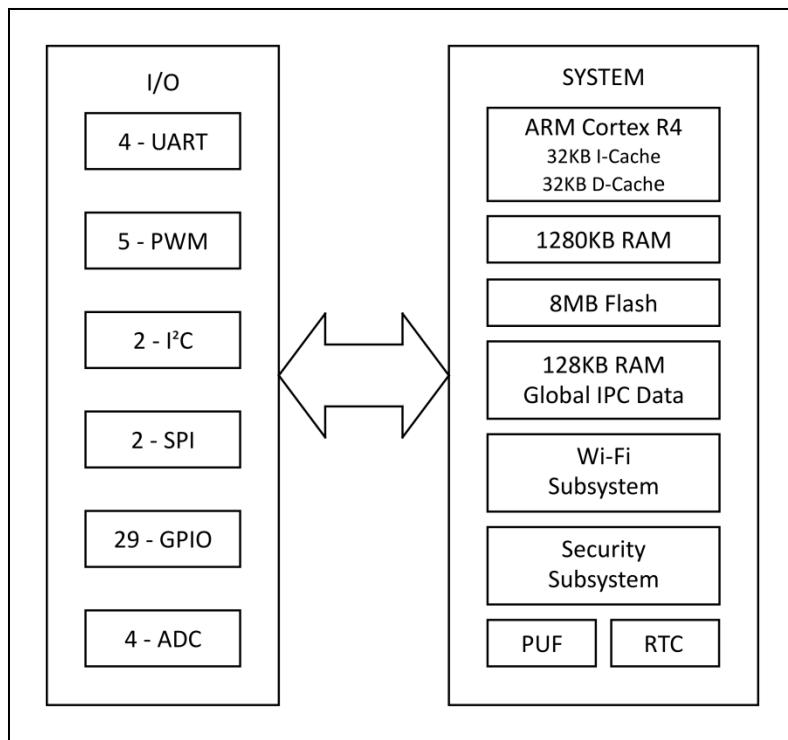

Figure 1. ARTIK 053 Module Block Diagram
*Figure 1* shows the functional Block Diagram of the ARTIK 053 Module.